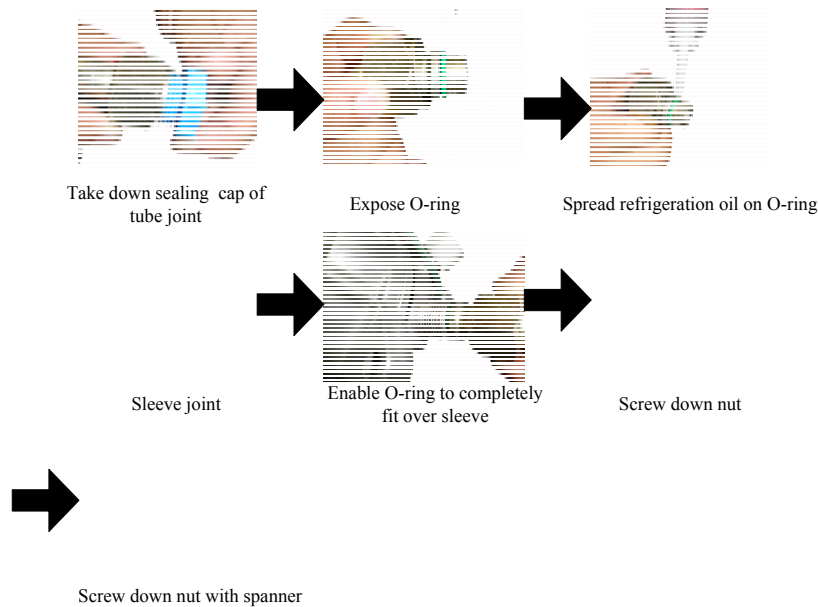

Figure 9: Piping connecting steps
- a) Connect the cooling pipe according to the operating steps shown in Figure 9. Refrigeration oil is required to be applied on piping connector and O ring. Pour the refrigerant oil left in the bottle into the low pressure port of the compressor (Large pipe).